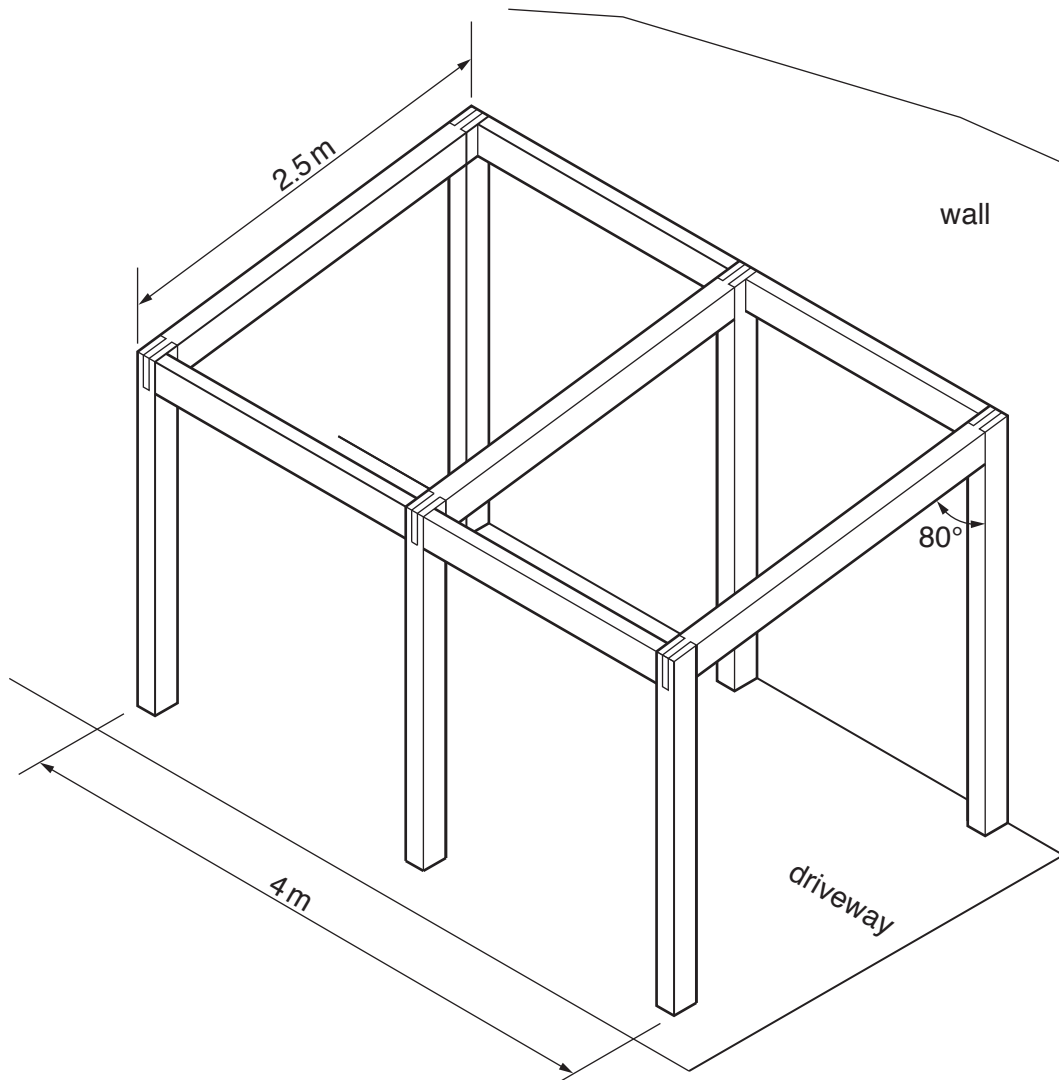

Fig. 6
- (iii) Fig. 6 shows a frame for a carport. The roof is to be covered using six uncut corrugated plastic sheets  $2600\text{ mm} \times 800\text{ mm}$ .
Draw on Fig. 6 to show **two** of the corrugated plastic sheets correctly positioned on the roof frame.